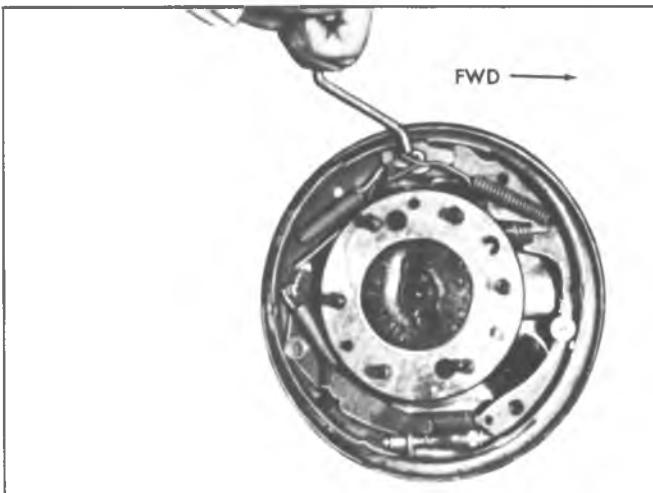

Fig. 49-Installing Pull Back Spring
- Hook springs in shoes using Tool J-8049 by installing the primary spring from the shoe over the anchor pin and then the spring from the secondary shoe over the wire link end (fig. 49).